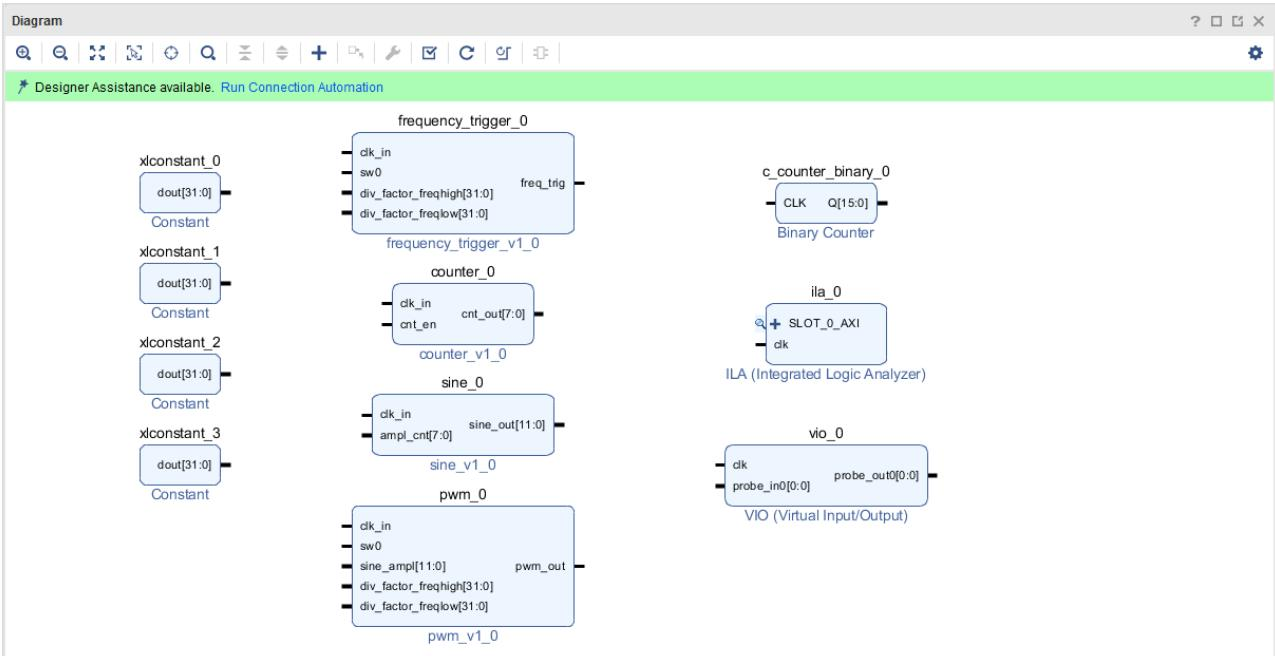

Figure 12.53: IP Integrator design canvas with instantiated Counter, ILA and VIO IPs
22. The next IPs necessary for our design are **Binary Counter (c_counter_binary_0)**, **ILA** and **VIO** IPs, see Figure 9.1. Add all three IPs into the "modulator_ipi" block design as it is shown on the Figure 12.53 and make the following IP customizations.